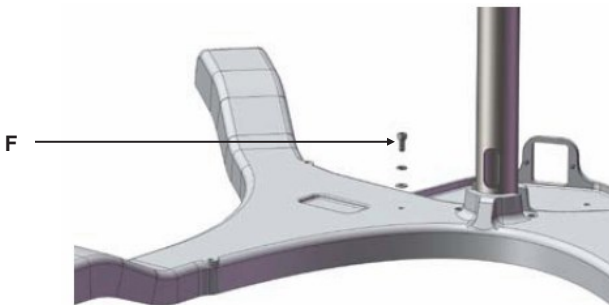

Figure 10: Ground screw.
13. Secure the attachment bar using the two (2) M8 washers and two (2) M8 screws. Tighten the screws using the 6mm Allen key.
15. Remove the ground screw and washers (F) using the 3mm Allen key. Refer to Figure 10.